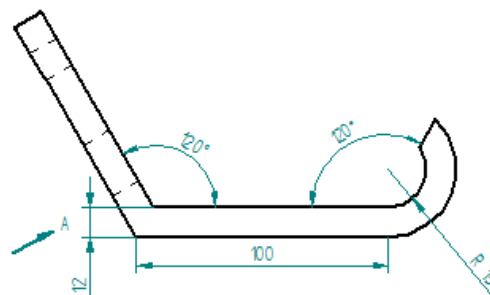

Figure 12-40 Front view after placing the angular dimension
6. Place the missing dimensions, as shown in Figure 12-40, using the dimensioning tools.